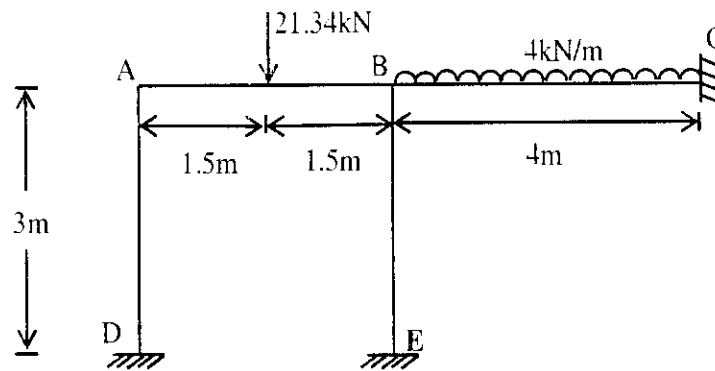

Fig 11
Q.4 Solve the frame using Kani's method (Fig 11). Sketch the B. M. D. for the frame. [16]